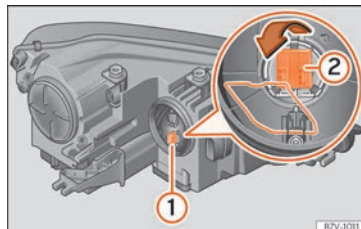

**Fig. 65** Turn signal bulb holder **①** and turning light **②**.
- Rotate the bulb holder  **Fig. 65** ① all the way to the left and pull it out backwards together with the bulb.
- Press the wire clip downwards and pull the bulb holder ②  **Fig. 65** out together with the bulb.